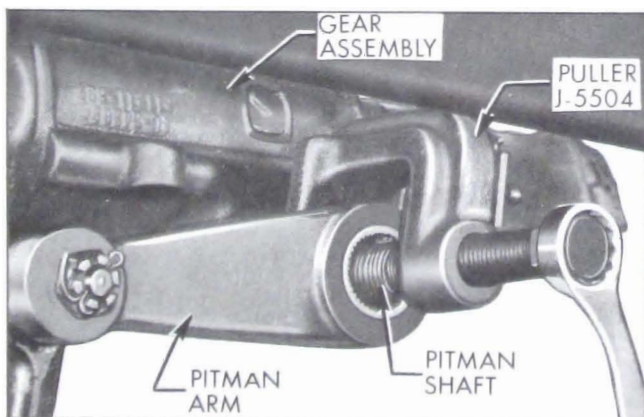

Figure 8-27—Removing Pitman Arm from Pitman Shaft
4. Jack up car and remove the pitman shaft nut, then remove the pitman arm using Puller J-5504. See Figure 8-27.
1. Remove pitman arm from pitman shaft. See Figure 8-27.